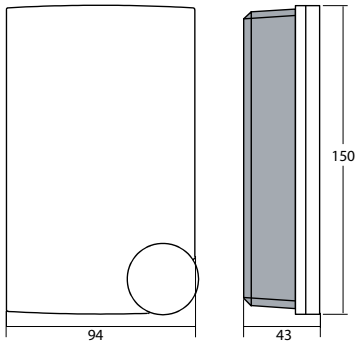

Fig 1
The supply voltage must be wired via a fully isolating switch with a contact gap of at least 3 mm, Supply voltage: 200...250 V AC, 50...60 Hz connects to terminal block J3, terminals 13 and 14 (fig 1).
The load is connected between terminals 15 and 16 in terminal block J3 according to fig 1.
- 1: 230 V AC heating (fig 1).
- 2: 230 V AC heating (fig 1).
- 3: 230 V AC heating (fig 1).